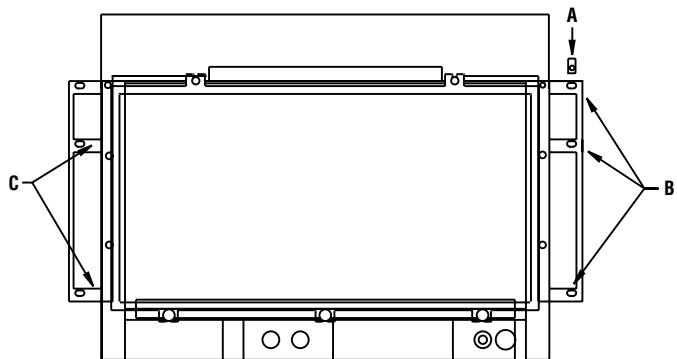

Figure 14
1. Remove the speed nuts from the parts bag and install (with the flat surface forward) on the six holes in the surround brackets, three on each side of the insert (See A in **Figure 14**). A flat bladed screwdriver may help in installing the nuts.
3. If the insert face is to be installed on the insert, the sight obstructor that comes with the face must be installed prior to installing the surround panels. With the curved edge down and the bent top edge positioned toward the insert, slide the tabs at the ends of the obstructor in the slots on the surround brackets (see C in **Figure 14**).
A number of different face finishes and shapes are available for your Designer™ Flush Gas Insert. The insert Face comes with a sight obstructor that must be installed prior to installing the surround panels (see step 3 on **Page 12**) and face. The faces come with hooked brackets. To install the face, hang the hooked bracket on the surround brackets (C in **Figure 14**).